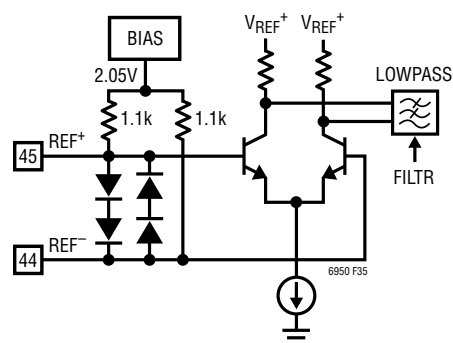

Figure 35. Simplified Reference Input Schematic
The LTC6950's reference input buffer provides a flexible interface to either differential or single-ended frequency sources. The frequency range for the reference input is from 2MHz to 250MHz. The reference input signal swing must be less than  $1.5V_{P-P}$  to avoid turning on the input buffer's protection diodes (see Figure 35). If the input signal is too large, it should be attenuated. Any reference signal source may also be directly coupled (DC), as long as its common mode voltage is approximately the self-bias voltage of the input buffer (see Figure 35). If the common mode voltage is too high or low, the signal must be level shifted or AC-coupled.